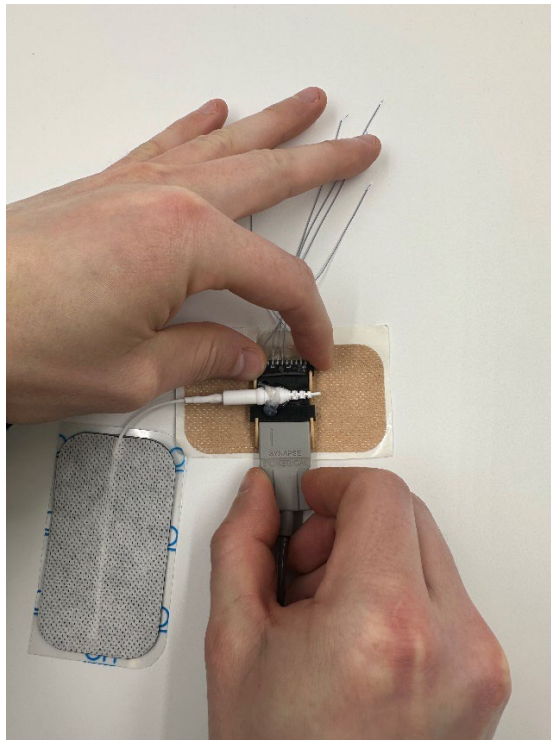

Figure 34.
5. Remove the plastic backing from the surface anode. Place the surface anode on the patient near the electrode connector holder. Plug the patient cable into the backup connector (Figure 34).